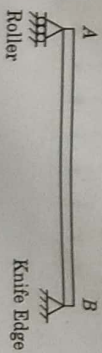

Fig. 25.2
**Simply Supported Beam.** A beam supported freely on supports which may be a knife edge or a roller. There is no deflection or displacement of the beam at the ends. (Fig. 25.2)